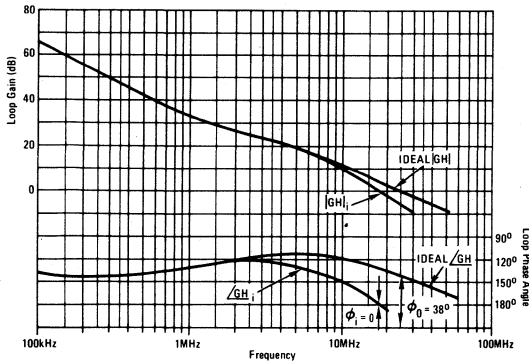

Figure 6
Therefore, the input capacitance creates a pole at $\omega_p = 1/R_1 C_i$ producing additional phase shift about this frequency. This will reduce the phase margin resulting in possible oscillation. For example, if $R_1 = R_f = 2K$ and $C_i = 10pF$, the pole frequency is found to be $f_p = 16MHz$. The loop gain plot $(GH)_i$ in Figure 6 reveals a perfect oscillatory condition at $18MHz$; i.e. $|GH| = 0dB$ and ϕ_i (phase margin) = 0 . If input capacitance were neglected, our prediction would have erroneously resulted in a phase margin (ϕ_o) of 38° .
- (1) Plot both gain and phase of the GH function on semi-log paper (see ideal GH curve Figure 6). The following points were tabulated: